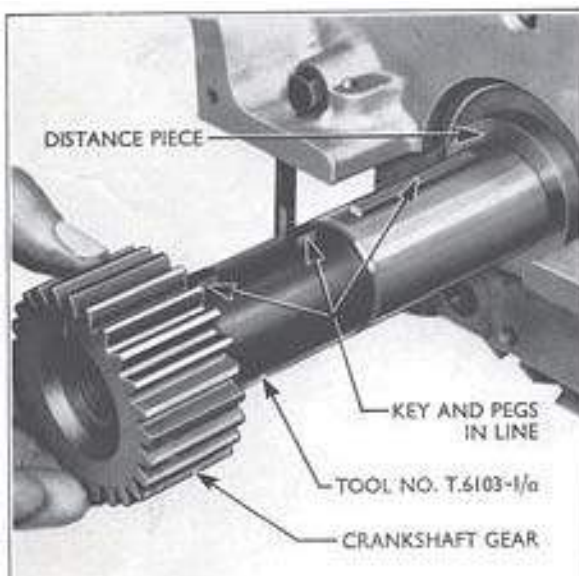

Fig. 15
1. Screw the alignment adaptor (T.6103-1 a) of the crankshaft gear replacer into the front of the crankshaft so that it is in as far as is possible and the pegs on the adaptor are in line with the woodruff key in the front of the crankshaft (see Fig. 15).